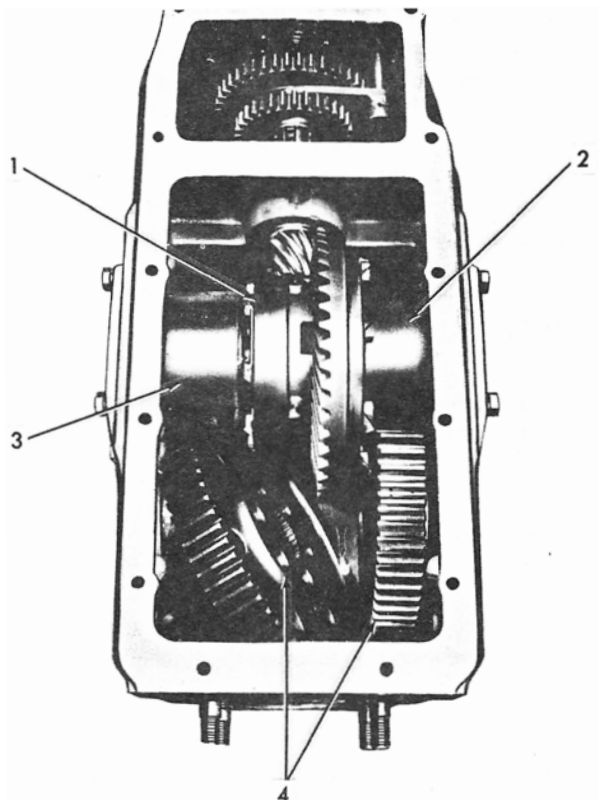

Figure 3
12. Lay the right-hand final drive gear as far down in the center-housing as possible so as to clear the bottom of the right-hand carrier, see Figure 3. (The left-hand gear is shown in this position.)